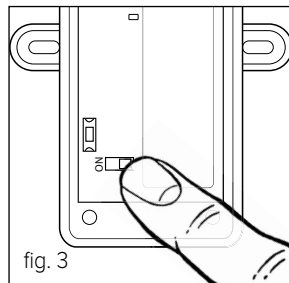

fig. 3
- Set the dip switch on the sensor's pcb to ON (fig. 3).